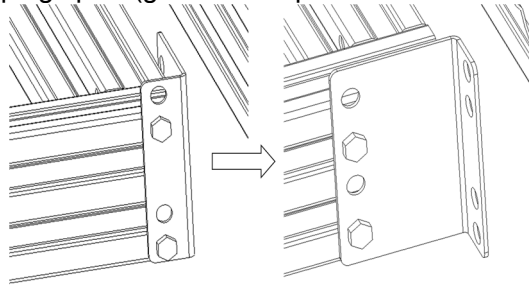
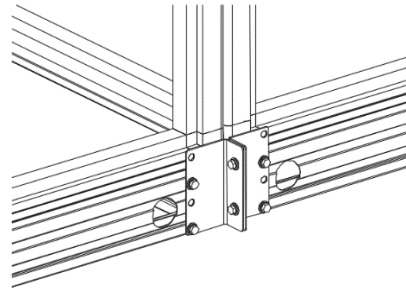

Figure 3.5 Base Limiting Plate Re-install
Figure 3.6 Base Connection
- 5) Remove the L-shaped plates (located on the connection section) of base, and re-install the plates onto left & right sides according to Figure 3.5, then fix two adjacent plates with disassembled M8 bolts and M8 nuts in accessory box according to Figure 3.6.
- 10) After locking the internal connection plates and fixing the sealing covers, tight bolts for the two adjacent plates of base again for better effect, as shown in Figure 3.6.